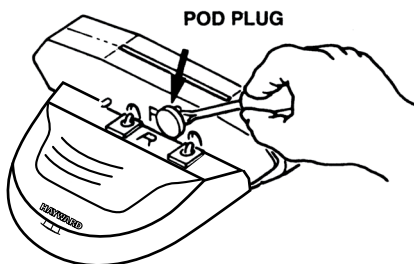

Figure 9
1. **Check the condition of the “shoes, wings and flaps” periodically.** The shoes and wings have wear indicators on their sides and should be checked occasionally to determine if they need replacing. The shoe wear indicator is a line on the side of the shoe that appears as a difference in texture. When this texture difference is no longer visible at the bottom of the shoe when viewed from either side, the shoes must be changed (see *Figure 8*). Also on the side, the wing wear indicator is a horizontal line which has three (3) vertical lines above it. When you can no longer see the horizontal line, the wings must be changed (see *Figure 9*). The Hayward Tune-Up Kit is available from your dealer. Shoes, wings and flaps may also be purchased separately.
- a) Using a screwdriver, remove the plugs from both pods (see Figure 9).